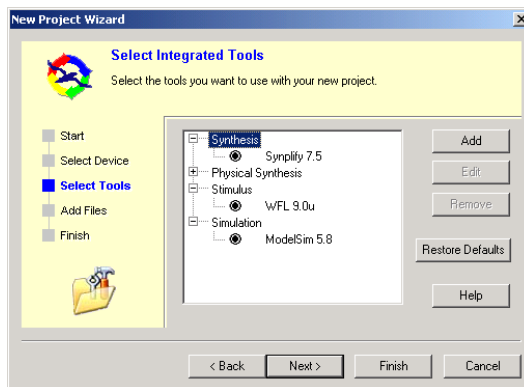

Figure 3-3. Selected Integrated Tools in New Project Wizard (Liberio IDE)
6. Click **Next** to select **Integrated Tools** in the New Project Wizard (Figure 3-3).